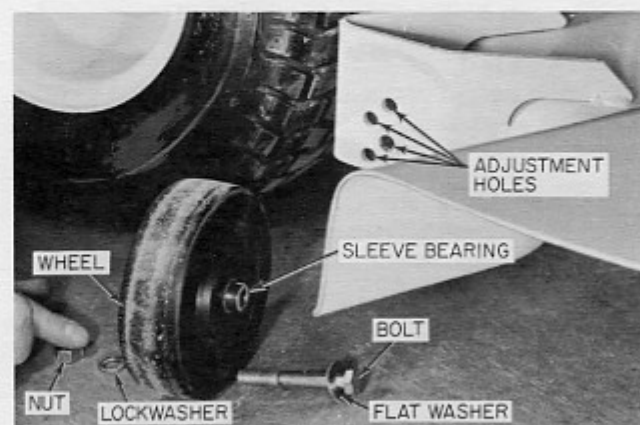

Figure 11
10. Install a wheel assembly in the lowest adjusting hole on each rear corner of the mower. This adjustment gives maximum cutting height for initial mowing passes. A 3/8-inch plain washer should be located between the bolt head and the wheel. Insert a sleeve bearing in each wheel. Secure each with a 3/8-inch lockwasher and nut. (See Figure 11.)